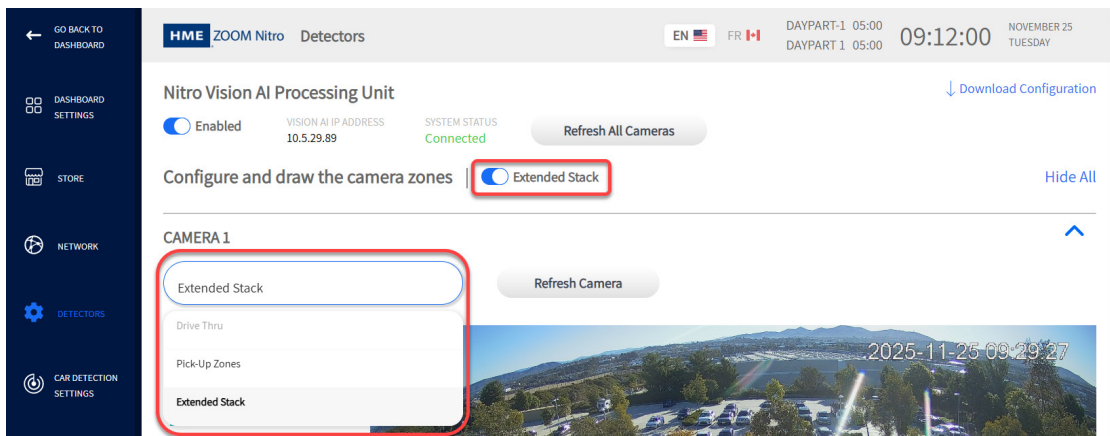

Fig. 32
16. Fig. 32 shows the CAMERA 1 drop-down list when the Extended Stack is enabled (the Extended Stack option does not appear in the drop-down list if the toggle is disabled). While Extended Stack requires a dedicated camera it must be used in conjunction with another Drive-Thru camera (i.e., it does not function independently).